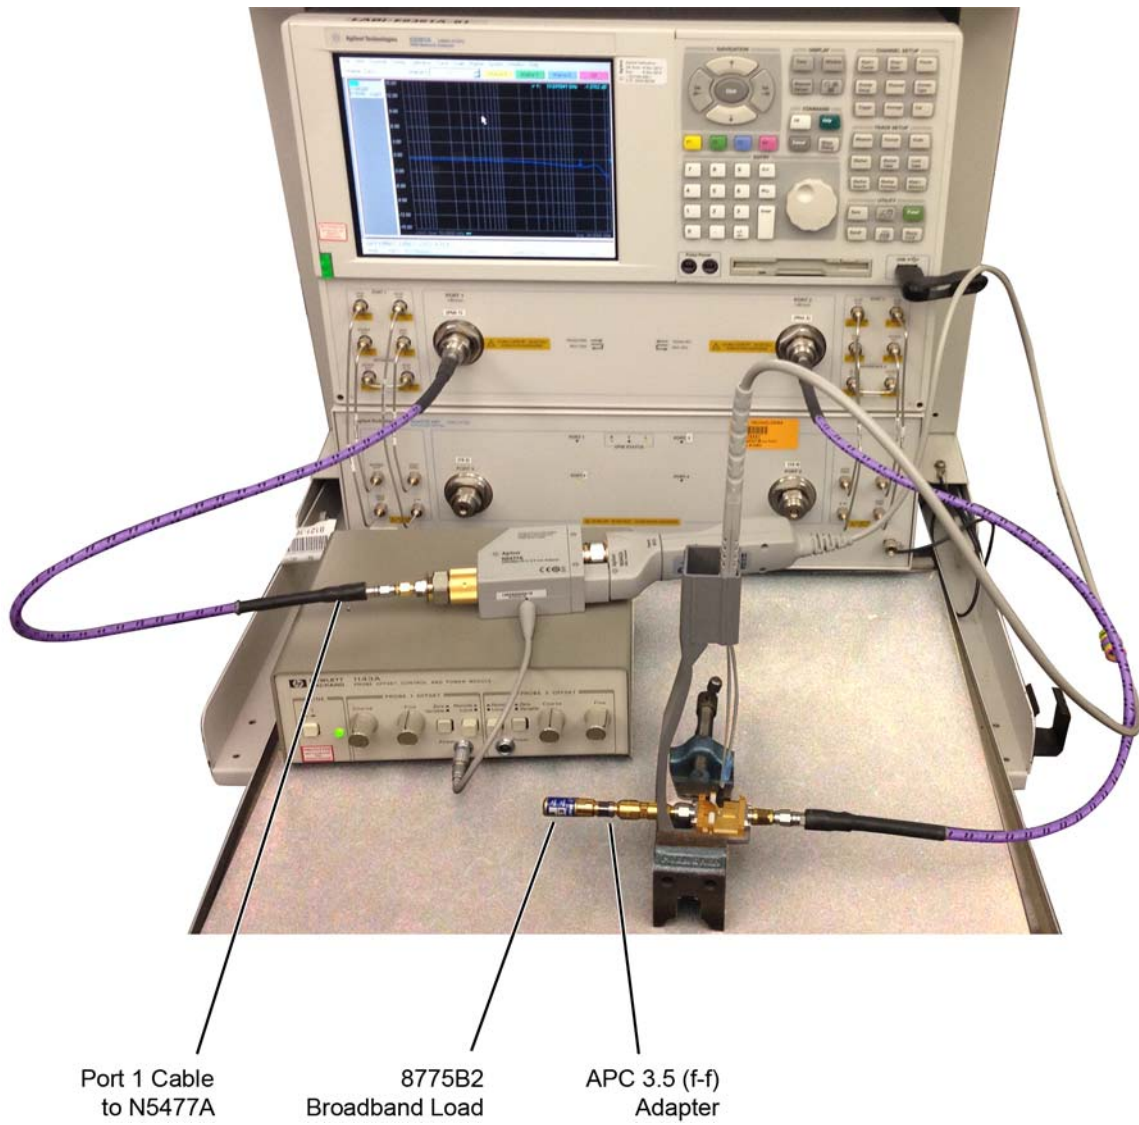

Figure 93 Test Setup to Measure V_{out} of Probe
- 12 As shown in **Figure 93** on page 112, move the Port 1 cable N5477A. Connect the 8775B2 broadband load as shown in the figure.